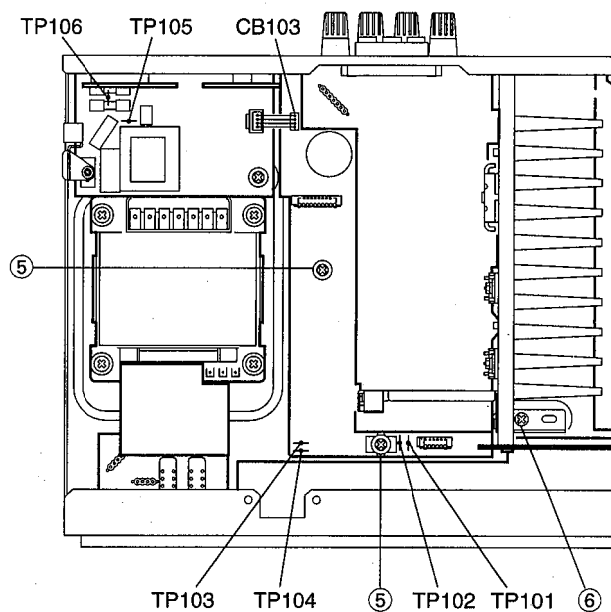

Fig. 3
- Remove 2 screws (⑤) and 1 screw (⑥) in Fig. 3.
- Detach 1 connector terminal (CB103) in Fig.3
- Operating checks can be taken by shorting between following test points in Fig.3.